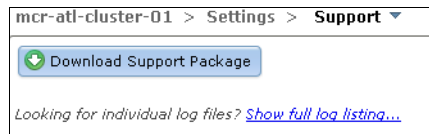

Figure 9-23 Download files menu
2. Click **Show full log listing**, as shown in Figure 9-23.